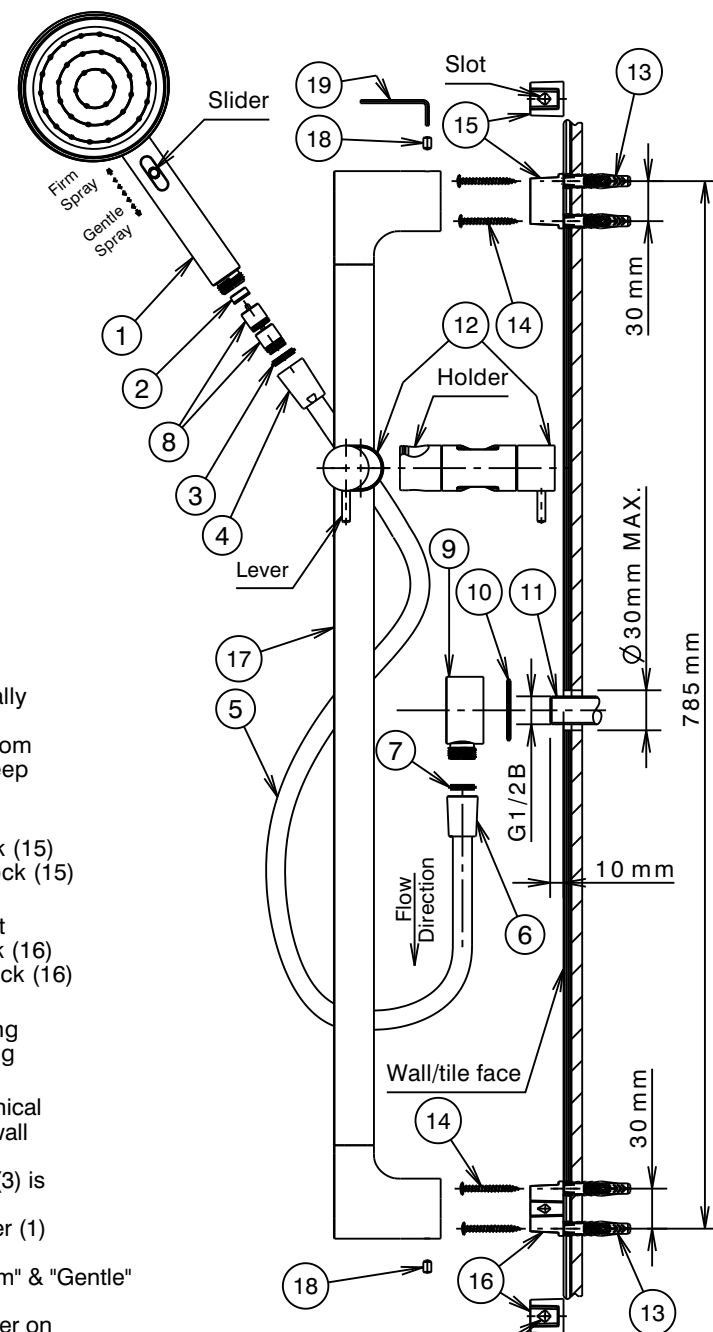

Fig.1
- * Hand Shower (1) is fitted with a flow regulator (2). This lower flow rate may not be suitable for connection to some gravity fed Water Heaters, low pressure supply networks, Instantaneous Water Heaters, Tempering Valves, Solar Water Heaters & Thermostatic Mixing Valves. Check with the manufacturers of these products. Note: Warranty is void if flow regulator (2) and check valves (8) not installed as shown.
- * Support rail (17) must be fitted to a solid wall or other firm surface and installed by a qualified trades person. Support rails are constructed to withstand a load 1100Nm (113kg) vertical force.
- * Drilled holes for attachment of support rail must be vertical and the distance between them must be accurate as shown in Fig. 1 to ensure correct fit when support rail is installed.